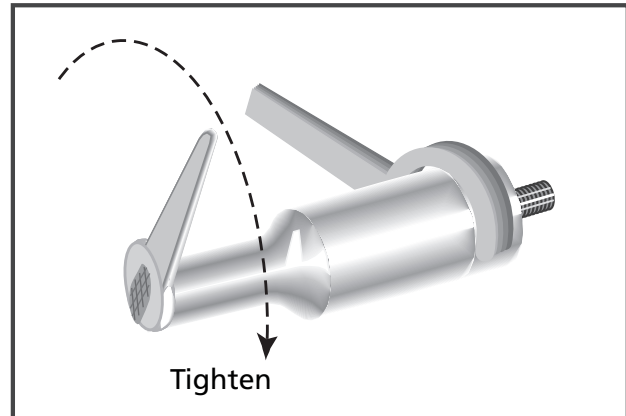

Figure 2-1 Replaceable Tip Installation
3. Thread the tip into the horn and tighten to the torque specifications below using an open end wrench of the correct size to fit the wrench flats of the tip. This is illustrated in Figure 2-1. If necessary, use a spanner wrench (on horns with spanner wrench holes) or an open end wrench (on horns with wrench flats) to keep the horn from turning in your hand. A canvas strap wrench is permissible if it does not gouge or scratch the horn.